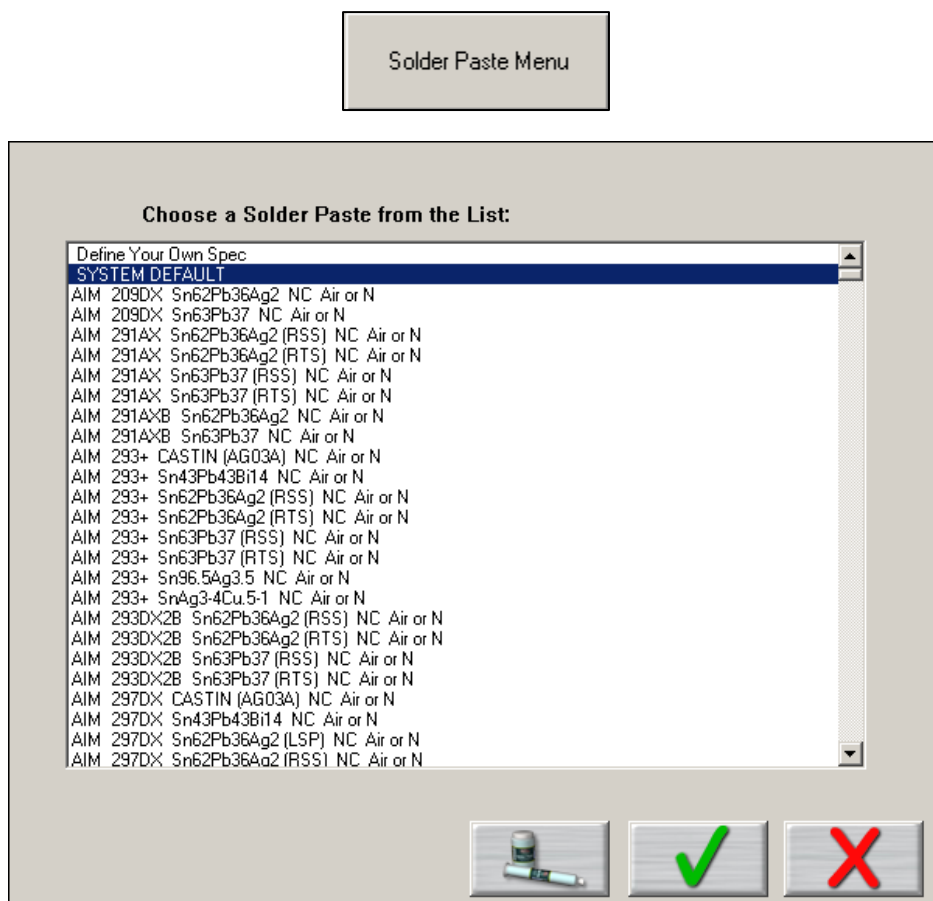

Figure 25: Solder Paste List
**Solder Paste Menu** - Once you have clicked on the *Solder Paste Menu* you will have a list of pastes to choose from. Use the scroll bar on the right to find your paste, and then click on the paste in the list. See Figure 25.